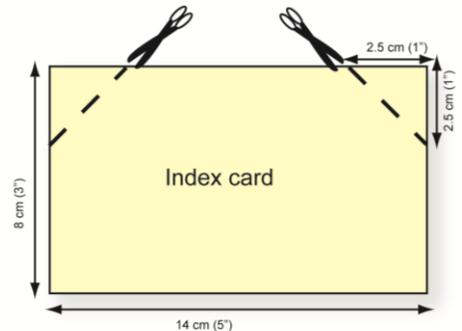

Figure 1
- 1** Trim 2 corners from the long side of the index card. (See figure 1.) Round off the corners to avoid sharp edges.